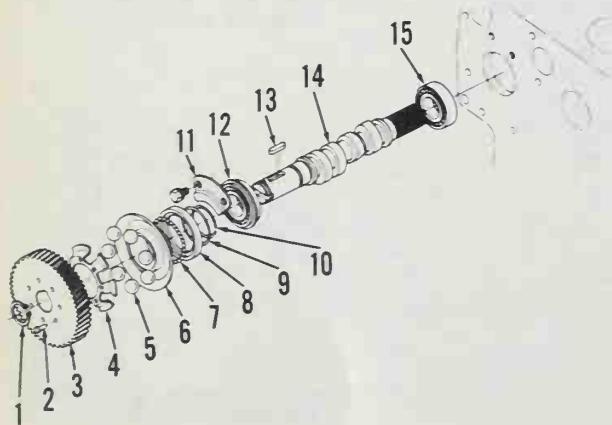

Fig. K3-20—Exploded view of injection pump camshaft and governor components.
The injection pump tappets are actuated by lobes on injection pump camshaft (14—Fig. K3-20). Inspect camshaft each time injection pump is removed.
All models are equipped with a flyball type governor as shown in Fig. K3-20. Ball movement against governor sleeve (6) actuates governor lever (9—Fig. K3-4) which is connected to fuel injection control rack. Flyball movement is balanced by governor spring (6).